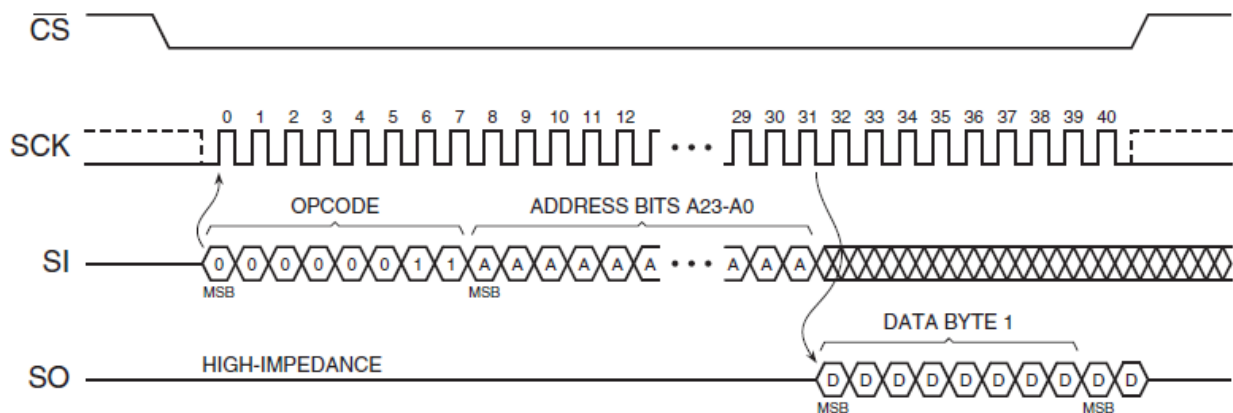

Figure 1. C5535 SPI Flash Boot Waveform
- Figure 1 must match this waveform: read command (03h opcode) followed immediately by 3 byte address, followed immediately by data output by SPI Flash (no additional clock cycles between any of the three stages).